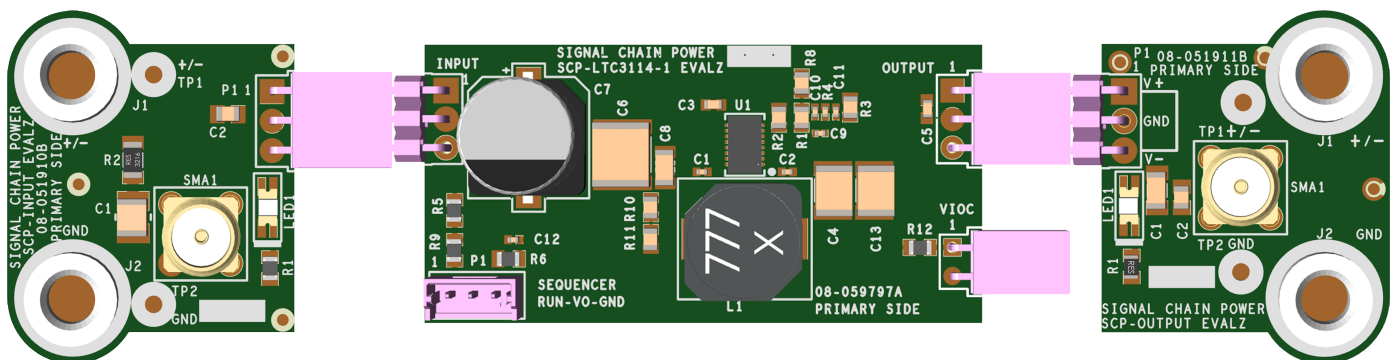

Figure 2. Proper Measurement Equipment Setup (Use SMA connectors for Measuring Input or Output Ripple)
2. Connect the SCP-INPUT-EVALZ and SCP-OUTPUT-EVALZ boards to the SCP-LTC3114-1-BB-EVALZ (refer to Figure 2) and connect the input board to a voltage source, V_{SOURCE} . Connect the output board to a voltmeter or dynamic load. Slowly raise the input voltage until the SCP-LTC3114-1-BB-EVALZ powers up into regulation and sweep V_{SOURCE} through the desired range of operation.